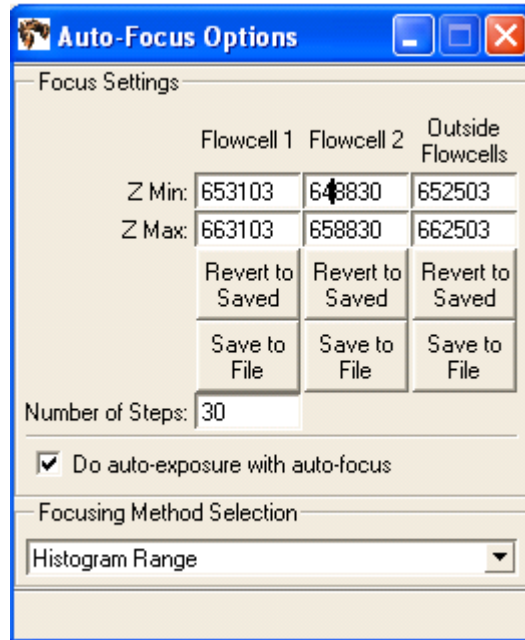

Figure 85 Enter auto-focus options.
3. Ensure that **Do auto-exposure with auto-focus** is checked. Enter a value 5000 less than the nominal Z distance for Z Min. Enter a value 5000 greater than the nominal Z distance for Z Max. Enter 30 for the Number of Steps and choose **Histogram Range** from the drop-down menu in the Focusing Method Selection pane (see Figure 85 on page 111).